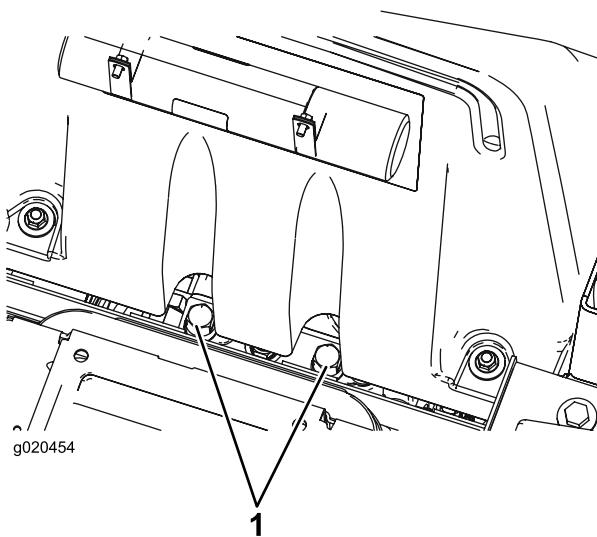

Figure 30
1. Raise the seat and locate the bypass valves, which are located below the front of the fuel tank (Figure 30).